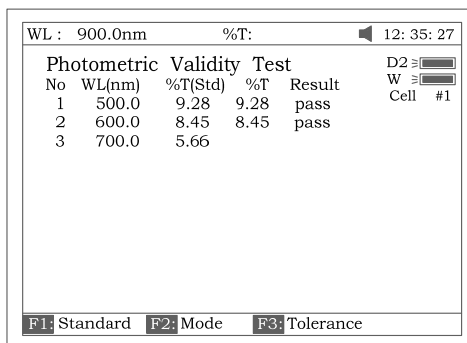

Fig 94
6. Put the sample (calibrated neutral density filter) into the light path. Press **[START]** to check. The results will be displayed on the screen (Fig 94). If the discrepancy between the results and the calibrated standards is not more than the tolerance, "pass" will be displayed after the test result. Otherwise, "fail" will be displayed.